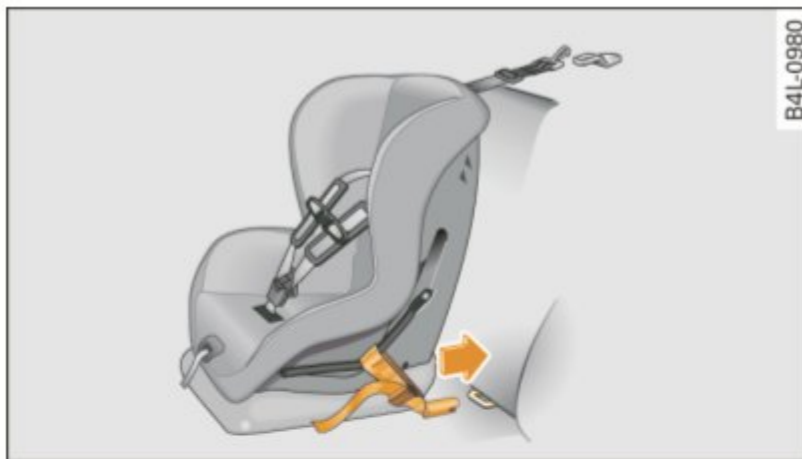

Fig. 194 Lower anchorages: proper mounting
- Attach both hook-on connectors with the spring catch release on the child safety seat onto the LATCH lower anchorage so that the connectors lock into place ⇒ fig. 194.